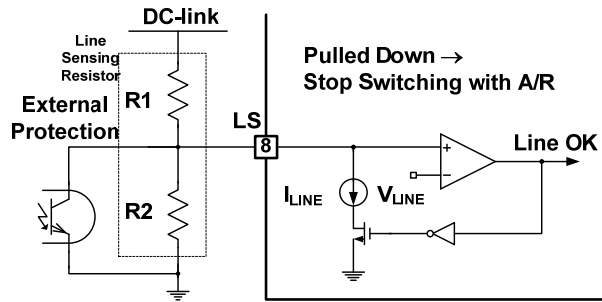

Figure 26. External Protection Circuits
**7. Simple Remote-On/Off:** The power stage can be shutdown with optional Auto-Restart Mode, as shown in Figure 26.